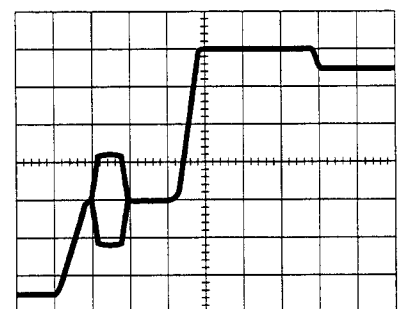

figure 2
► Lower the sweep coefficient to 2 $\mu\text{s}/\text{div}$. The beginning of the line is dilated, and the trigger point remains unchanged (line synchronisation pulse) (Figure 2).